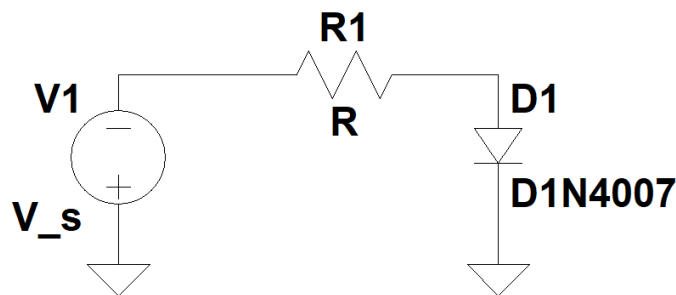

Figure 8 Reverse Biased Diode Circuit
1. Connect the Circuit as shown in Figure 8.